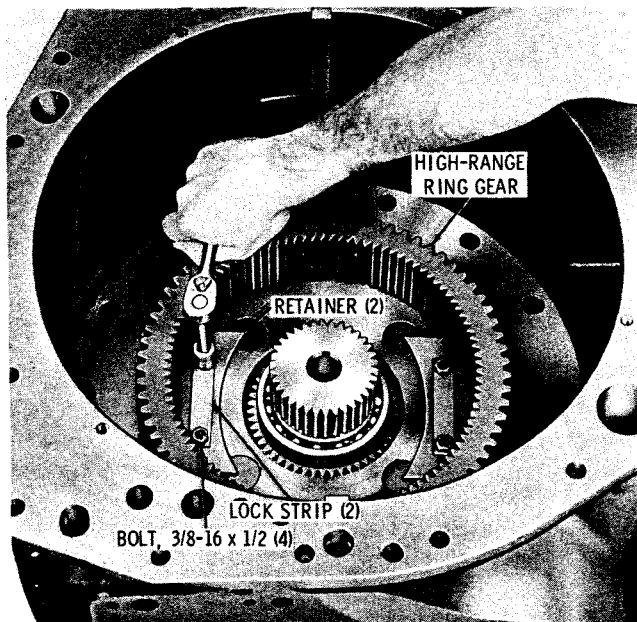

Fig. 7-16. Installing spindle retainer bolts
(14) Install the high-range planetary ring gear, flat side upward, and mesh it with the splines of the intermediate-range planetary carrier assembly (fig. 7-16).
(15) Install two spindle retainers, two lock strips, and four 3/8-16 x 1/2-inch bolts (fig. 7-16). Tighten the bolts to 26 to 32 pound feet torque. Bend corners of each lock strip against each bolt head.